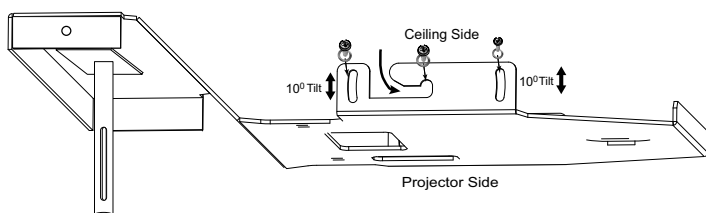
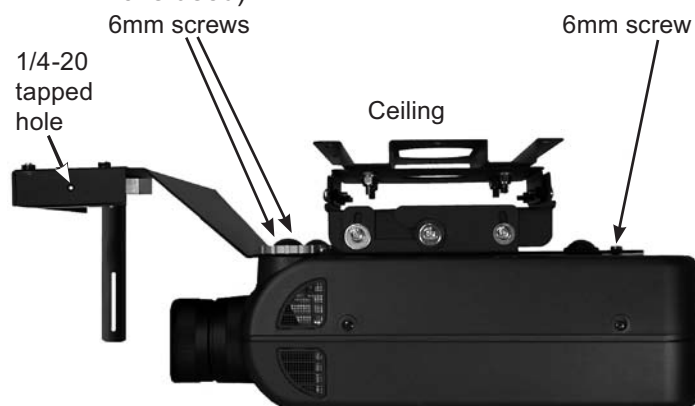
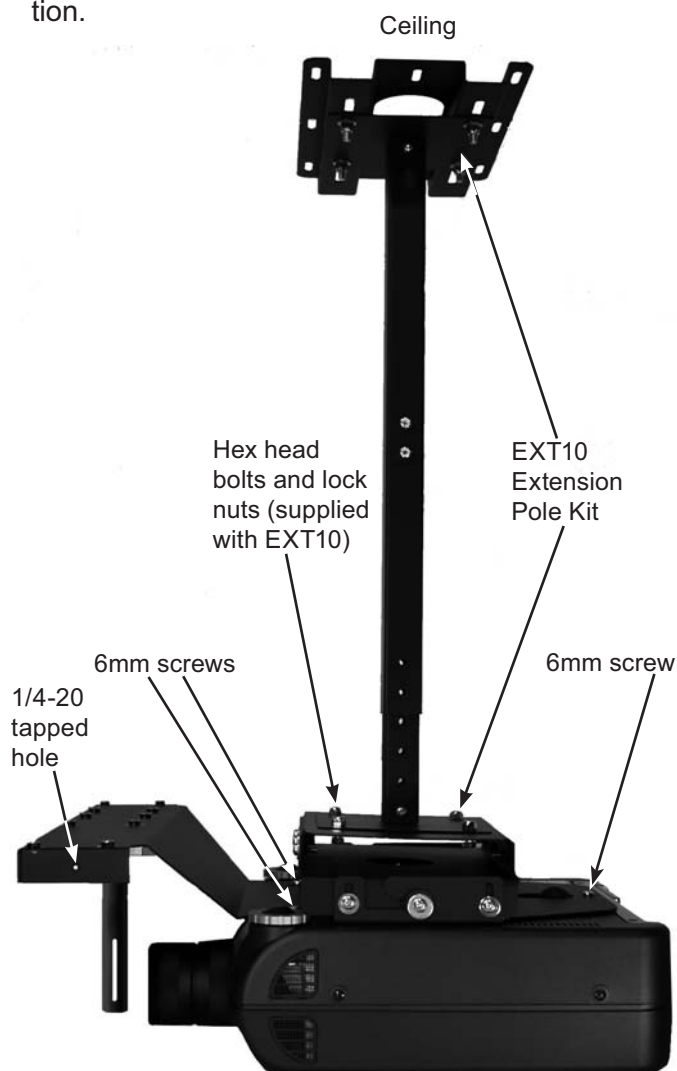

Figure 19
Figure 20
Figure 21
Lift and slide the projector onto the 1/4-20 inch screws previously installed in the metal studs of the plate on the ceiling (see arrow in Figure 19). Tighten the 1/4-20 inch screws on both sides of the mount and install four 1/4-20 inch screws and washers into the side of the projector Mounting Plate 4. Refer to figure 20 (or figure 21 when the EXT10 is used).
*Note: For added horizontal stability 1/4-20 eye bolts may be screwed into either side of plate 4 with guide wires attached to the eye bolts. Refer to figures 20 and 21. For safety, the MT20/EXT10 is designed to support the weight of the LN7101F and VP-11 Projector without assistance from the eye bolts with guide wire.*